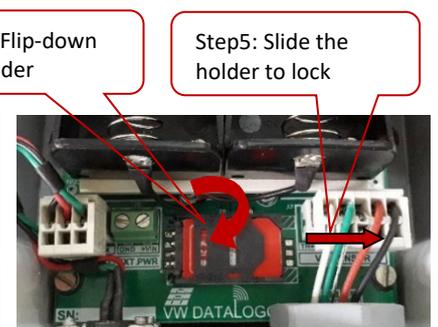

Figure 3-11
- 4 Close the SIM holder by pushing from the opposite side keeping the SIM pushed down as shown in Figure 3-11. Slide the holder to Lock.